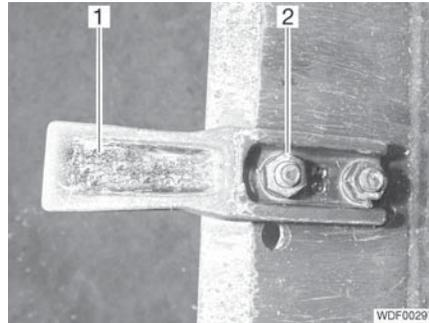

Fig. 470 Digging tooth attachment
- Unscrew the 2 nuts (Fig. 470,2).
- Remove the digging tooth (Fig. 470,1).
- Screw the 2 nuts (Fig. 470,2) with spring lock washers onto the bolts and tighten.